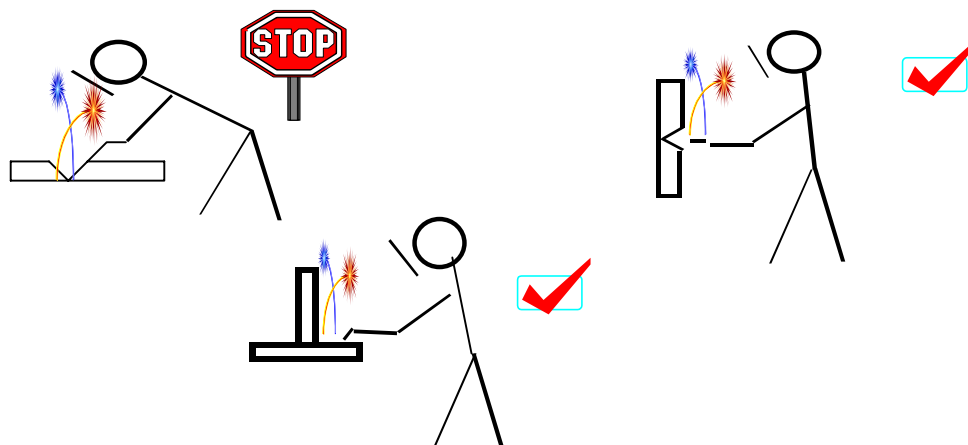

Figure 3. The welder's head should not enter the visible fume plume.
- 1) Arrange welding to reduce welders exposure as shown in Figure 3. This also reduces fatigue and back problems.